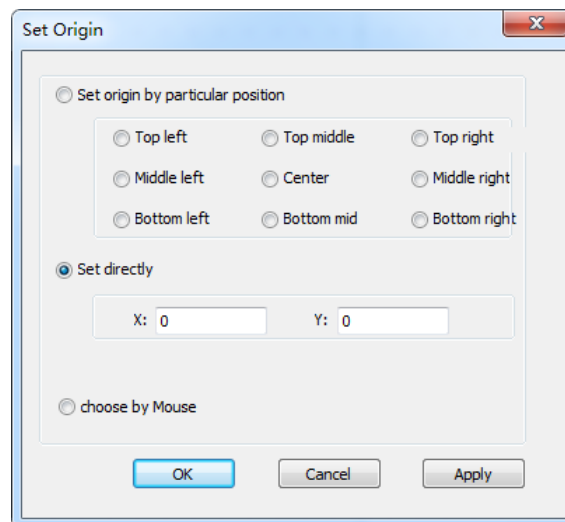

Fig. 3-4 Set Origin
- 1) Click [Set Origin] under [Draw], and dialog box [Set Origin] as shown in Fig. 3-4 will pop out. You can set workpiece origin by particular positions, set the X/Y coordinate of workpiece origin directly, or by mouse.